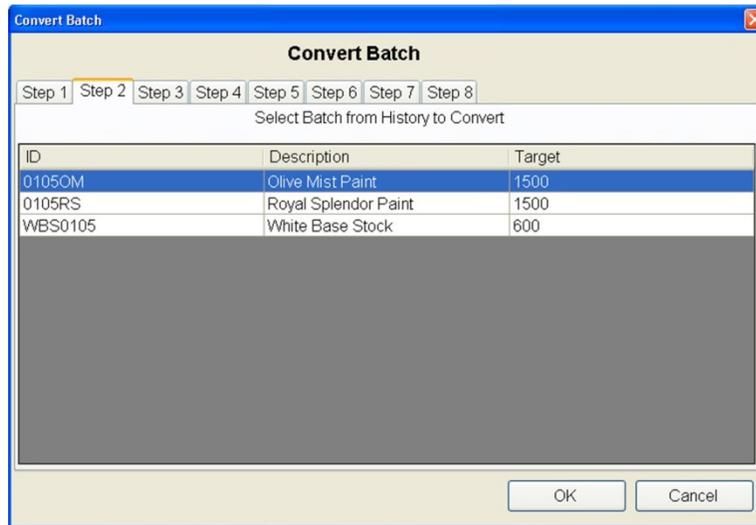

Figure 12-11: Recipe Selection Screen
5. A screen like the one shown in Figure 12-11 will appear. Select the recipe to be converted from the list – in this case, "Olive Mist Paint" is highlighted. Click on **OK** to continue.